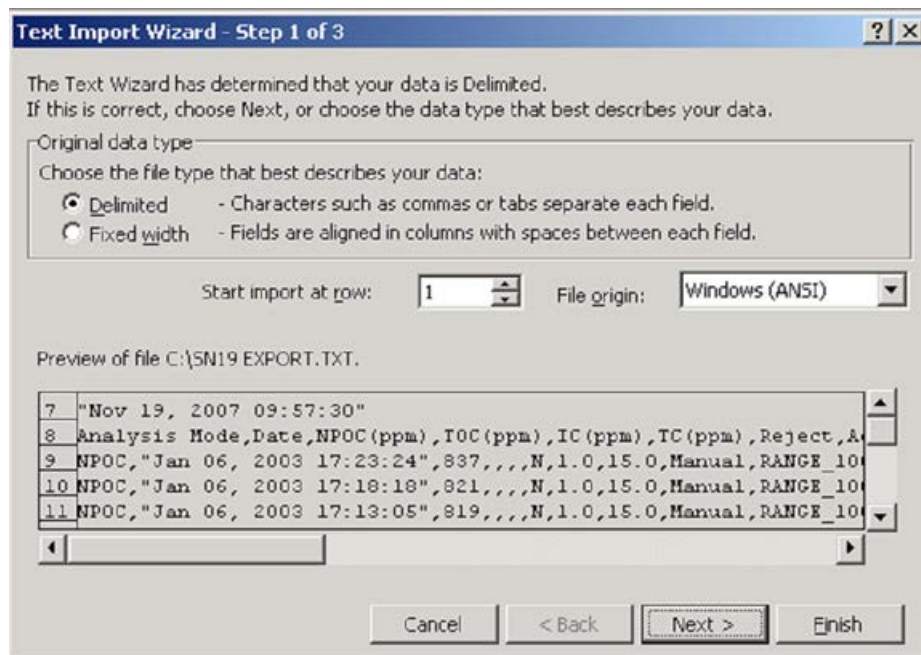

Figure 131: Microsoft Excel Spreadsheet Screen — Text Import Wizard - Step 1
6. Depending on the version of Microsoft Excel spreadsheet program you have, the program may automatically start the “Text Import Wizard” to help you create a spreadsheet from the data in the file. If the “Text Import Wizard” dialog box appears (see Figure 131), make sure **Delimited** is selected and click the **Next** button.